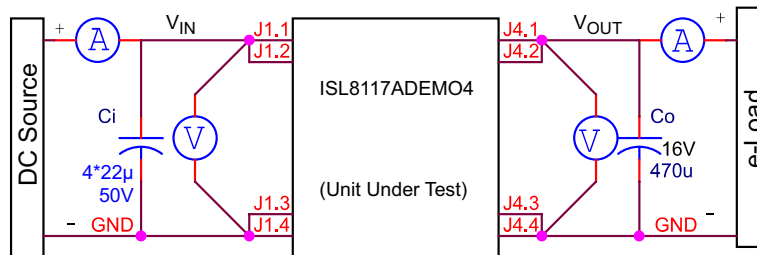
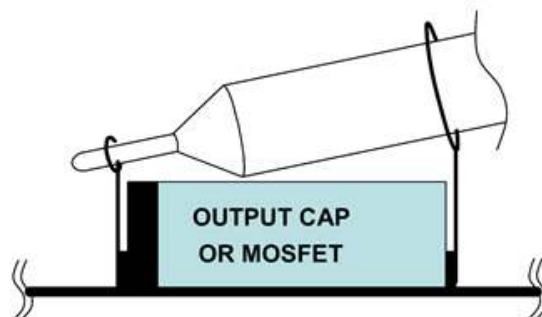

Figure 2. Proper Test Setup
Figure 3. Proper Probe Setup to Measure Output Ripple and Phase Noise Ringing
- (1) Ensure that the circuit is correctly connected to the supply and electronic loads before applying power. Refer to Figure 2 for proper setup.
- (2) Turn on the power supply.
- (3) Adjust the input voltage V_{IN} to a value within the specified range and observe the output voltage. The output voltage variation should be within 5%.
- (4) Adjust the load current to a value within the specified range and observe the output voltage. The output voltage variation should be within 5%.
- (5) Use an oscilloscope to observe output voltage ripple and phase node ringing. For accurate measurement, refer to Figure 3 for proper test setup.
As shown in Figure 2, 6.5V to 42V V_{IN} is supplied to J1.1 (+) and J1.3 (-). The regulated 12V output on J4.1 (+) and J4.3 (-) can supply up to 3A to the load.